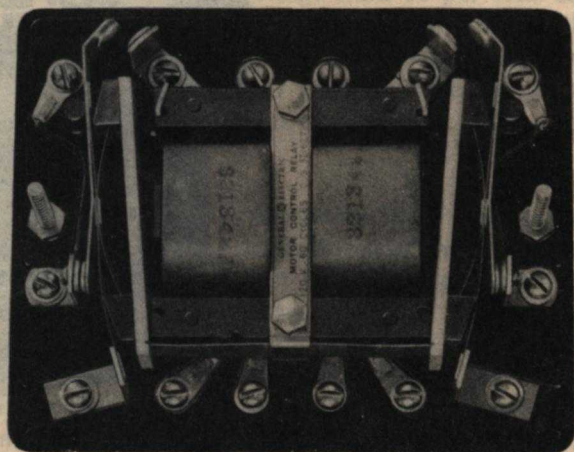

Fig. 9. Motor-control relay
2. Motor-control Relay—See Fig. 9